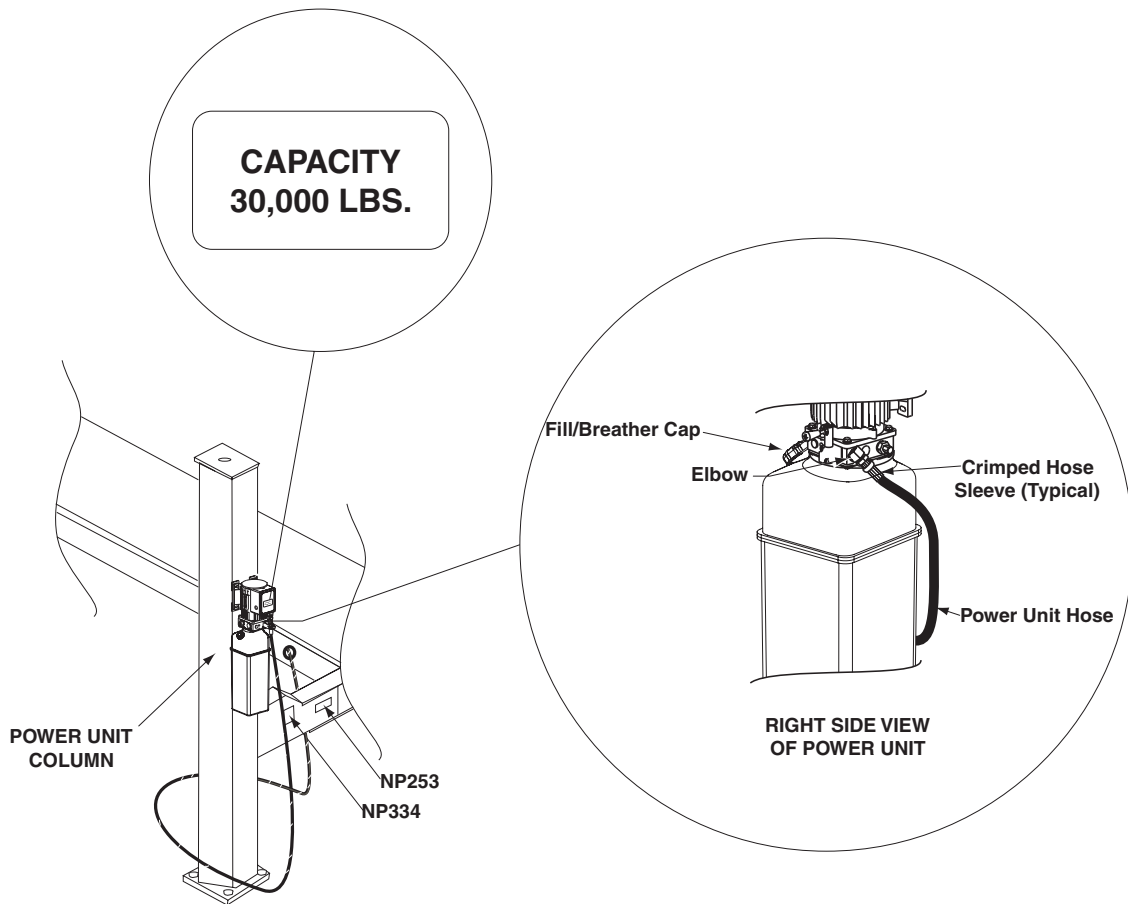

Fig. 17
- D. Run hydraulic hose from runway through slot in side of runway to power unit output port, Fig. 17. **DO NOT** use Teflon tape on hydraulic hose connections. Install and hand tighten elbow to pump until O-ring is seated and elbow should be oriented downward at approximately 45°, Fig. 17. Tighten locknut to 35-40 ft. lbs.
- E. Install enclosed capacity label on power unit, Fig. 17.
CAUTION If fill/breather cap, Fig. 17, is lost or broken, order replacement. **DO NOT** substitute with a solid plug.
- A. System capacity is twenty-two (22) quarts. Use Dexron III ATF. Remove fill/breather cap and fill vent screw, Fig. 17.